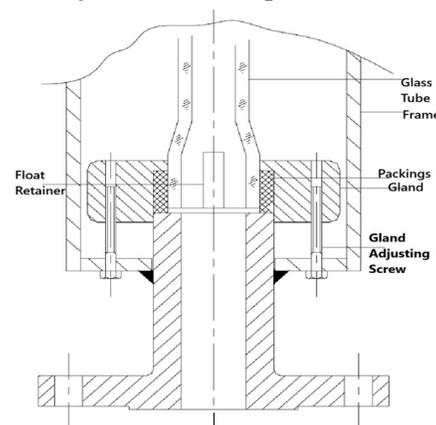

Figure 3
2. Refer to **Figure 3**, showing the cross-section of the Rotameter assembly.